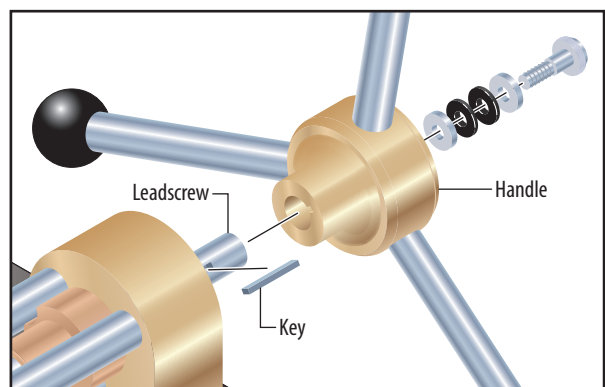

Figure 3
- 5 Use a 4- or 5mm Allen key to remove the Handle Assembly bolt and washer(s), then pull to slide the Handle Assembly from the Piston Assembly (**figure 3**). Be sure to also remove the Key from the Piston Assembly Leadscrew (**figure 3**).